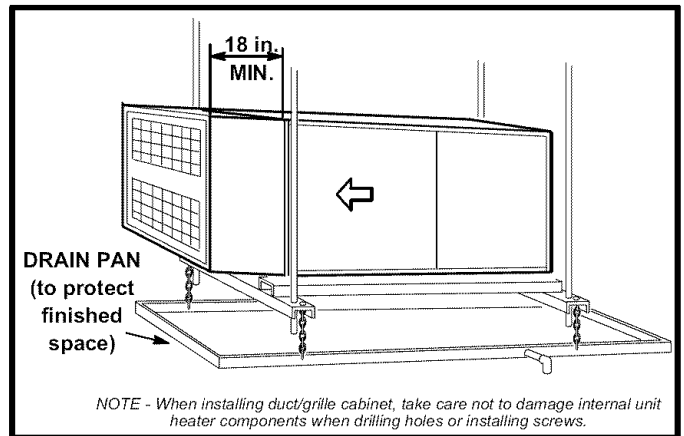

FIGURE 23
- 4 - Use #10-16 x 1/2 inch sheet metal screws to secure duct/grille cabinet to unit, taking care not to damage internal components of unit heater when drilling holes or installing screws. See figure 23.
- 4 - Hang drain pan below support frame as shown in figure 23. Route auxiliary drain line so that water draining from this outlet will be easily noticed by the homeowner.
- 5 - Mount unit on support frame as shown in figure 23. Unit must be level to ensure proper coil drainage. Leave 5-1/2 inches for service clearance below unit for condensate trap.